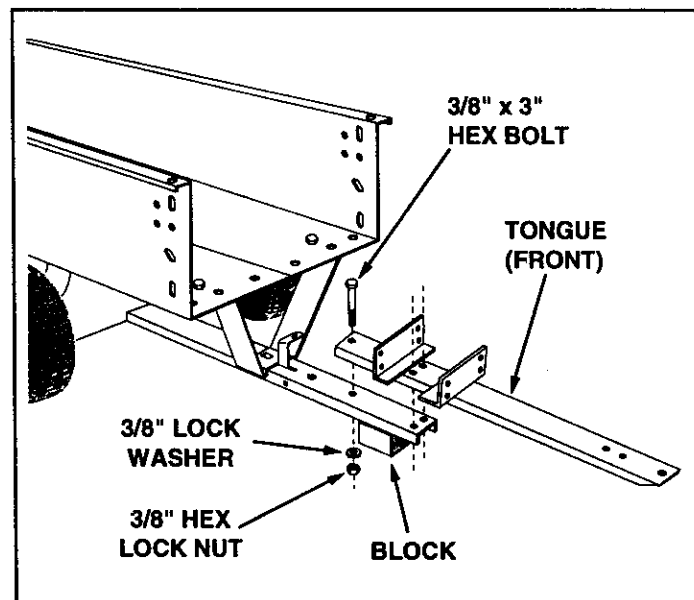

FIGURE 9
- Assemble the front tongue on top of the rear tongue using three 3/8" x 3" hex bolts, 3/8" lock washers and 3/8" hex lock nuts. See figure 9.